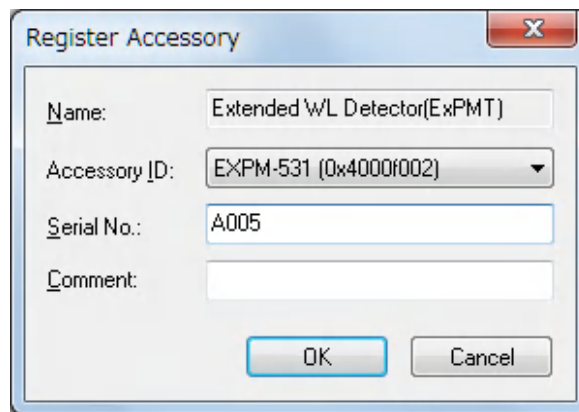

Figure 3.8 [Register Accessory] dialog box
- (2) Click the <Add...> button to display the dialog box in Fig. 3.8.